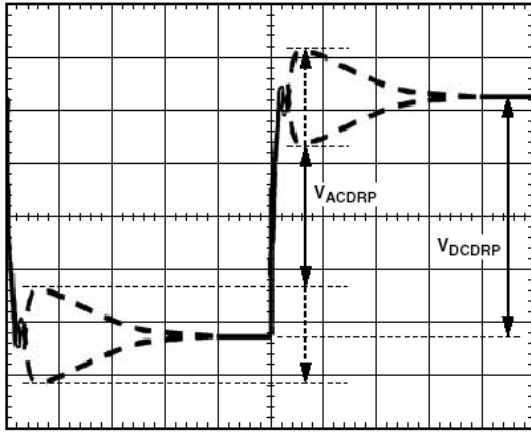

Figure 8. AC Loadline Waveform
15. You will see a waveform that looks something like Figure 8. Use the horizontal cursors to measure  $V_{ACDRP}$  and  $V_{DCDRP}$  as shown. DO NOT MEASURE THE UNDERSHOOT OR OVERSHOOT THAT HAPPENS IMMEDIATELY AFTER THE STEP.